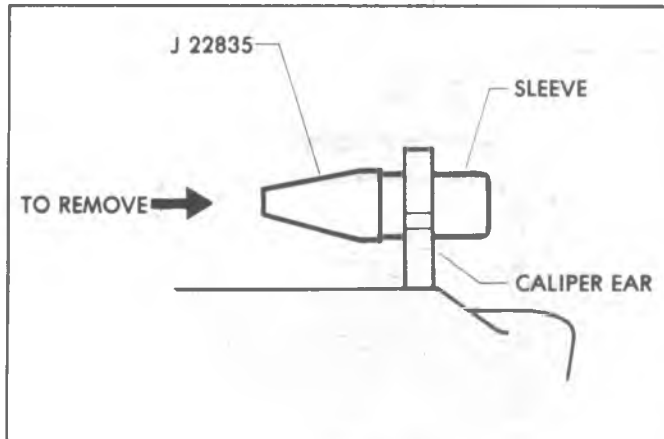

Fig. 5-22--Removing Sleeves
- Using Tool J-22835, remove the sleeves from the inboard ears of the caliper (fig. 5-22). Next, remove the rubber bushings from the grooves in each of the four caliper ears.